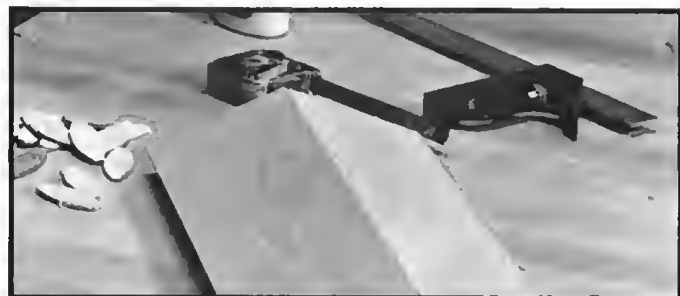

Fig. 39
4. Press the two pieces of wood together as shown in Fig. 39.